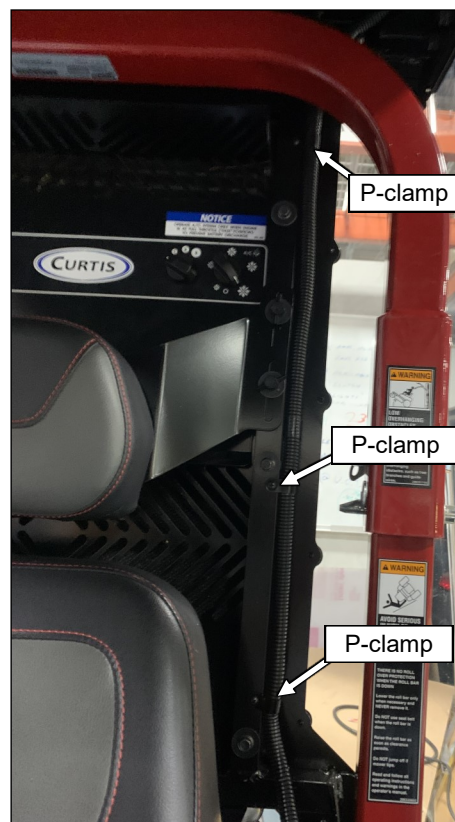

Fig. 1.9 (Routing Harness Up Left Side Frame)
- 1.9** Route remaining section of wire harness from the under seat area, up the left tube of the cab rear frame. Attach the harness using the supplied fasteners and p-clamps to the left rear tube. See Figure 1.9.